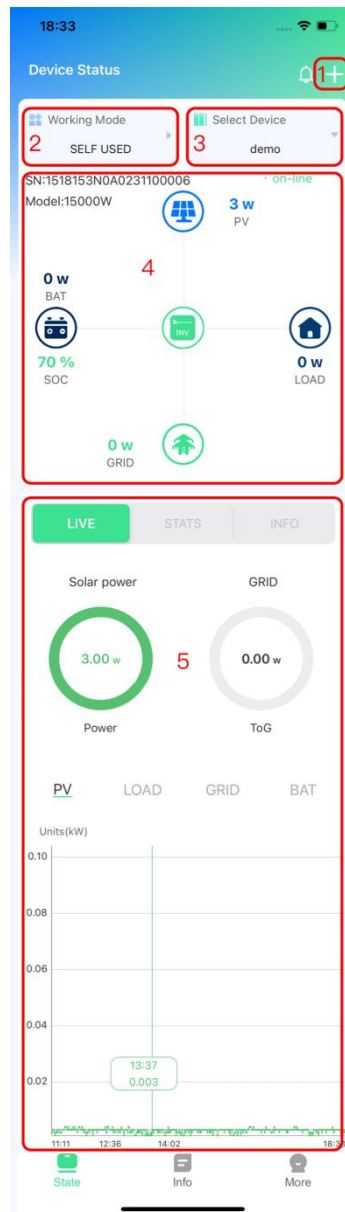

Fig. 3.1 Device Status
After a successful login, you'll be taken directly to the "State" page. If you have multiple inverters, it will show detailed information for one of the online inverters by default. as shown in Fig. 3.1.
1. Adding devices (in Area 1 of Fig. 3.1).
2. Operating modes (in Area 2 of Fig. 3.1).
3. Device selection (in Area 3 of Fig. 3.1).
4. Real-time energy status: This shows the energy status including PV, battery, grid, load, inverter, along with the device's online status (in Area 4 of Fig. 3.1).
5. Device data: Real-time data, statistical data, and device information (in Area 5 of Fig. 3.1). For details on each area, please refer to the following subsection.
Users can choose different working modes of the machine according to their own needs. In the "State" page, click "**Working Mode**" (in Area 2 of Fig. 3.1), then the page jumps to a new interface where you can select the mode, you can choose one of the four working modes of "SELF USED", "PEAK SHIFT", "BACK-UP", "FEED-IN PRIORITY", and click "**Save**". A pop-up will confirm the successful save, as shown in Fig. 3.2 and Fig. 3.3.
In the "State" page, click on "Device Selection" (in Area 1 of Fig. 3.1). A dropdown list will appear, and you can click on the **demo** to view its data or modify its settings, as shown in Fig. 3.5.
On the "State" page, you can see the visual representation of device online status and real-time energy status (in Area 4 of Fig. 3.1). Online device status is shown in Fig. 3.6, where there are four directional lines representing energy dynamics.
In the "State" interface, you can find detailed device data (in Area 5 of Fig. 3.1) The device data section includes: **LIVE** Data, **STATS** Data and Device **INFO** For a detailed explanation of the data, please refer to the following sections.
In the "State" page, click "LIVE" (in Area 5 of Fig. 3.1) to view real-time dynamic data for the current device. You can view the following parameters in real-time data: